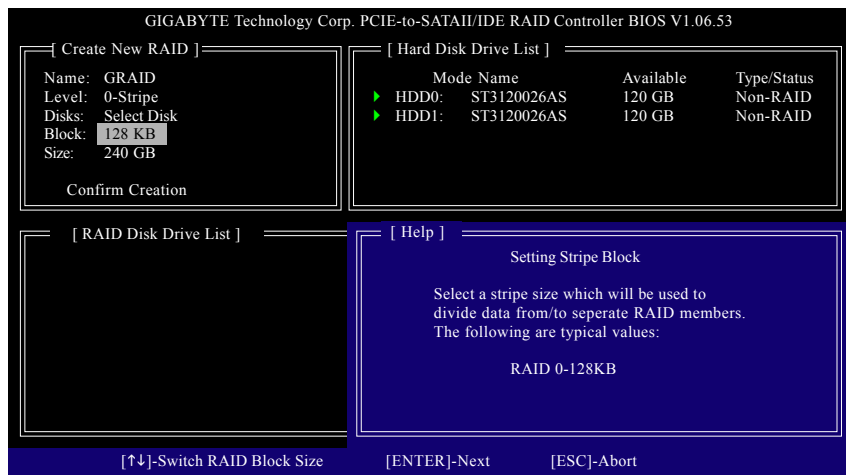

Figure 7
4. **Set Block Size (only for RAID 0):** Under the **Block** item, use the UP or DOWN ARROW key to select the block size (Figure 7), ranging from 4K to 128K. Press ENTER when finished.